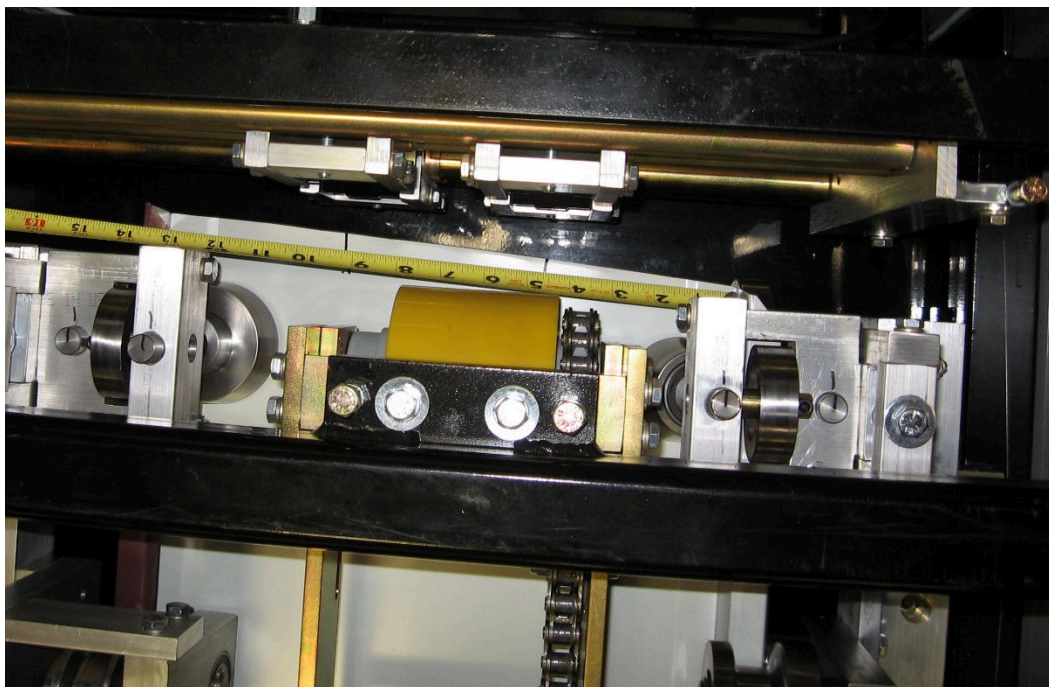

Figure 73: Spacing Bead Rollers
22. If the panel requires beads, determine the spacing needed. For Example: a 12" wide panel with 2 beads centered on the panel would give 3 equal spaces or 12" divided by 3, which equals 4" from center to center of each bead. **Shut the machine off and lock it out**, then hook the end of a tape measure on the outside bottom corner of the female leg. Use a magic marker or grease pencil to mark the 4" and 8" locations on the panel. There will now be 3 equal spaces. (Figure 73)